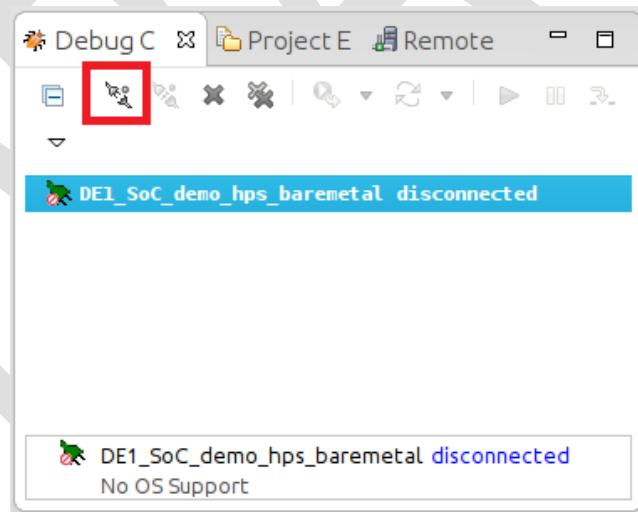

Figure 8-36. Debug Control View
29. In the “**Debug Control**” view, click on the “**DE1\_SoC\_demo\_hps\_baremetal**” entry, then click on the “**Connect to Target**” button, as shown on Figure 8-36. Our debug script will load and execute the preloader, then it will load and wait at our application’s “**main()**” function.